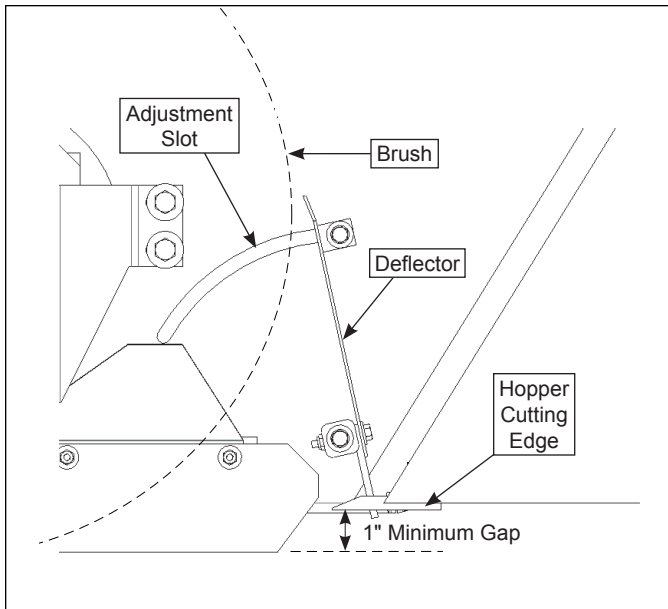

Figure 3
2. If so equipped, lift the curb/gutter broom, attach support chain and lock chain into bracket to hold broom in place. See Figure 3.
NOTE: There must be a minimum of a 1" gap between the ground and the hopper cutting edge. See Figure 3.